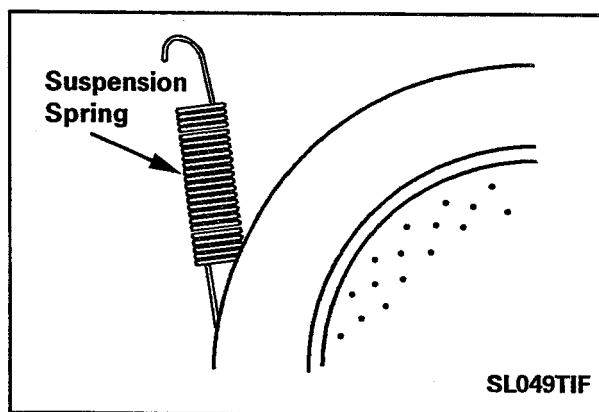

Figure 2-29
3. Allow the front shroud to suspend down in front of the washer to expose the front suspension springs (Figure 2-29).